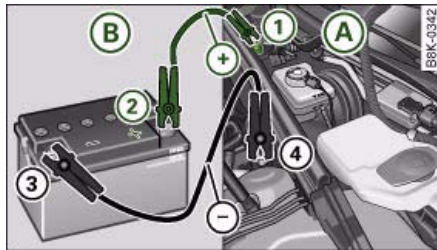

Fig. 279 Jump-starting with the battery of another vehicle: A – Discharged battery, B – Boosting battery
- 1. Connect one end of the lead to the **jump-start terminal** ⇒ fig. 279 (1) (terminal under red cap = “positive”) of the vehicle with the flat battery (A).
- 2. Connect the other end of the positive lead to the positive terminal (2) of the boosting battery (B).